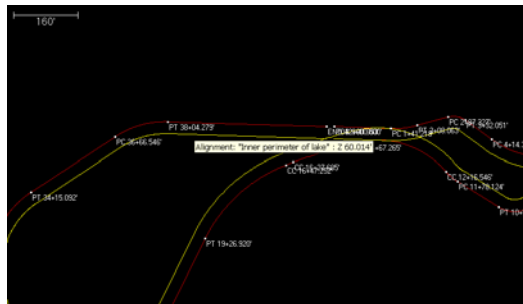

Figure 6-5. Show Surface Elevation for Alignment
2. Drag the cursor anywhere within the surface to display the elevation (Figure 6-5).